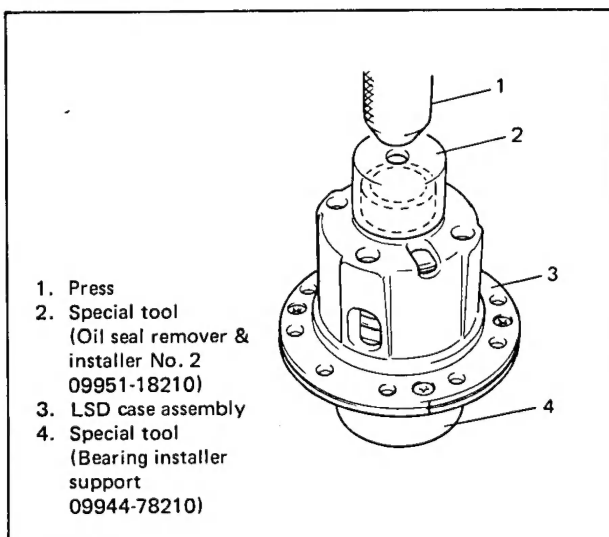

Fig. 7E-5
3. Separate differential cases (right and left). Take out all parts from each case. Place all parts in such order as they are removed and in two separate groups, right side parts and left side ones. (Refer to Fig. 7E-3.)